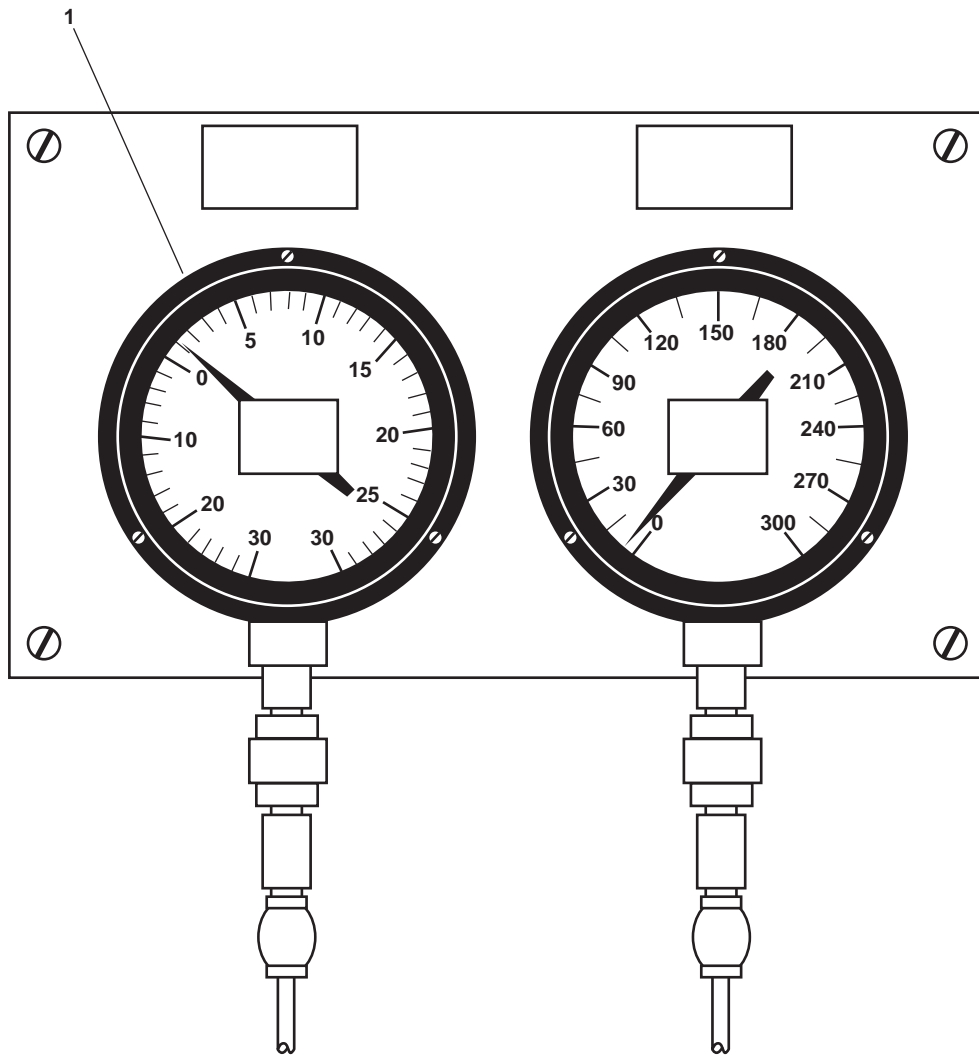

Figure 7. AFFF Discharge Pressure Gauge
13. With the fire monitor discharge valve CLOSED, observe the AFFF discharge pressure gauge (figure 7, item 1).
14. Observe and record the pressure displayed on the AFFF discharge pressure gauge (figure 7, item 1) when the relief valve lifts.